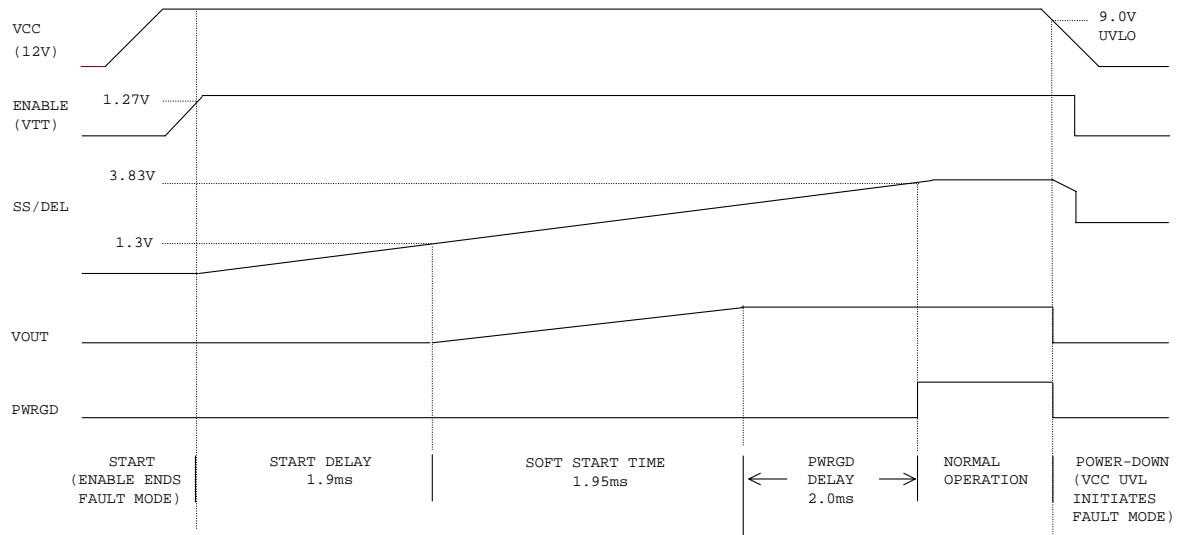

Figure 10 – Start-up Waveforms
The IR3082 has a programmable soft-start function to limit the surge current during the converter start-up. A capacitor connected between the SS/DEL and LGND pins controls soft start as well as over-current protection delay and hiccup mode timing. A charge current of 66 μ A and discharge current of 6 μ A control the up slope and down slope of the voltage at the SS/DEL pin respectively. Soft start-up waveforms are shown in Figure 10.
The SS/DEL pin voltage controls the slew rate of the converter output voltage, as shown in Figure 10. After the ENABLE pin voltage rises above 1.23V, there is a soft-start delay time *t_{SSDEL}*, after which the error amplifier output is released to allow the soft start. The soft start time *t_{ss}* represents the time during which the output voltage rises from zero to *V_O*. *t_{ss}* can be programmed by an external capacitor, which is determined by Equation (1).